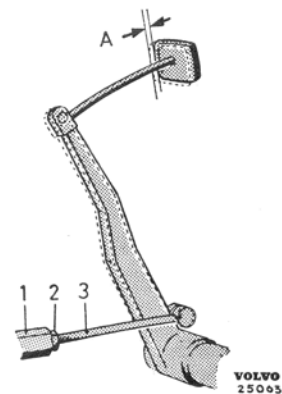

Fig. 31. Adjusting the brake pedal free travel
Adjusting the brake pedal free travel is done by adjusting the length of the link rod (3, Fig. 31). When doing this, slacken the locking nut (2) and turn the thrust rod (1) until the pedal has a free travel of 7—12 mm ( $\frac{1}{4}$ — $\frac{1}{2}$ " (measurement A). Tighten the locking nut.